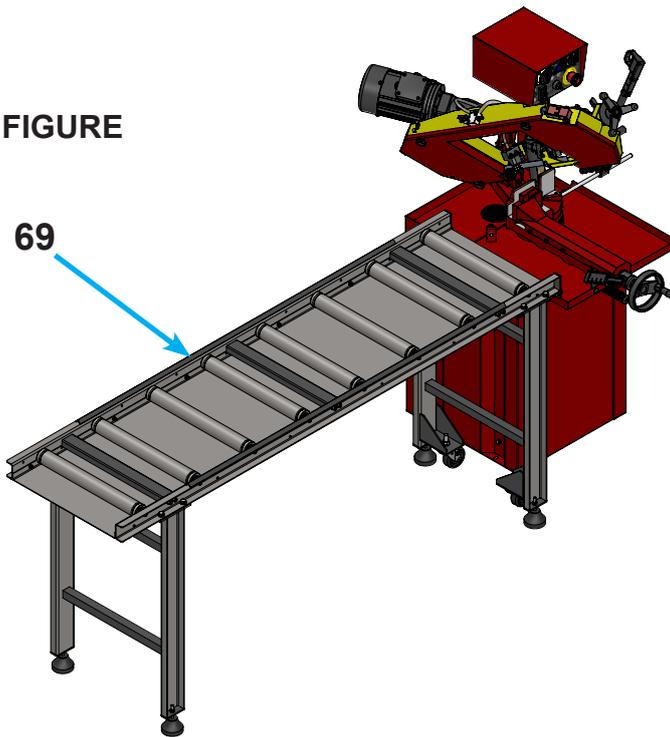

FIGURE 8.2 - EXAMPLE OF INPUT ROLLER TABLE
In the cutting processes of long materials, the operator must **SUPPORT** the material properly on Input (69) and/or Output (70) Roller Tables, as shown in figures 8.2 and 8.3. For materials with lengths shorter than 630 mm, **MAINTAIN** the use of the Side Support (67) as an option.